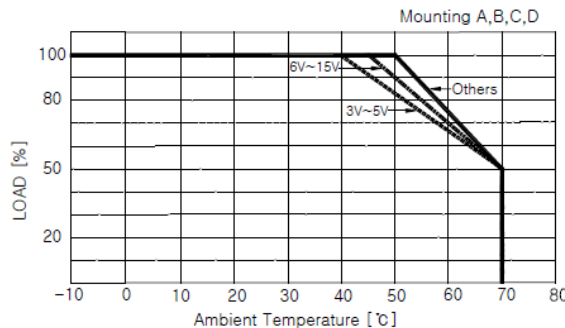

Fig.19 Ambient Temperature derating curve
- o With input voltage at AC100~264V, output derating is as shown on Fig.19 and Table4. depending on mounting method and ambient temperature.